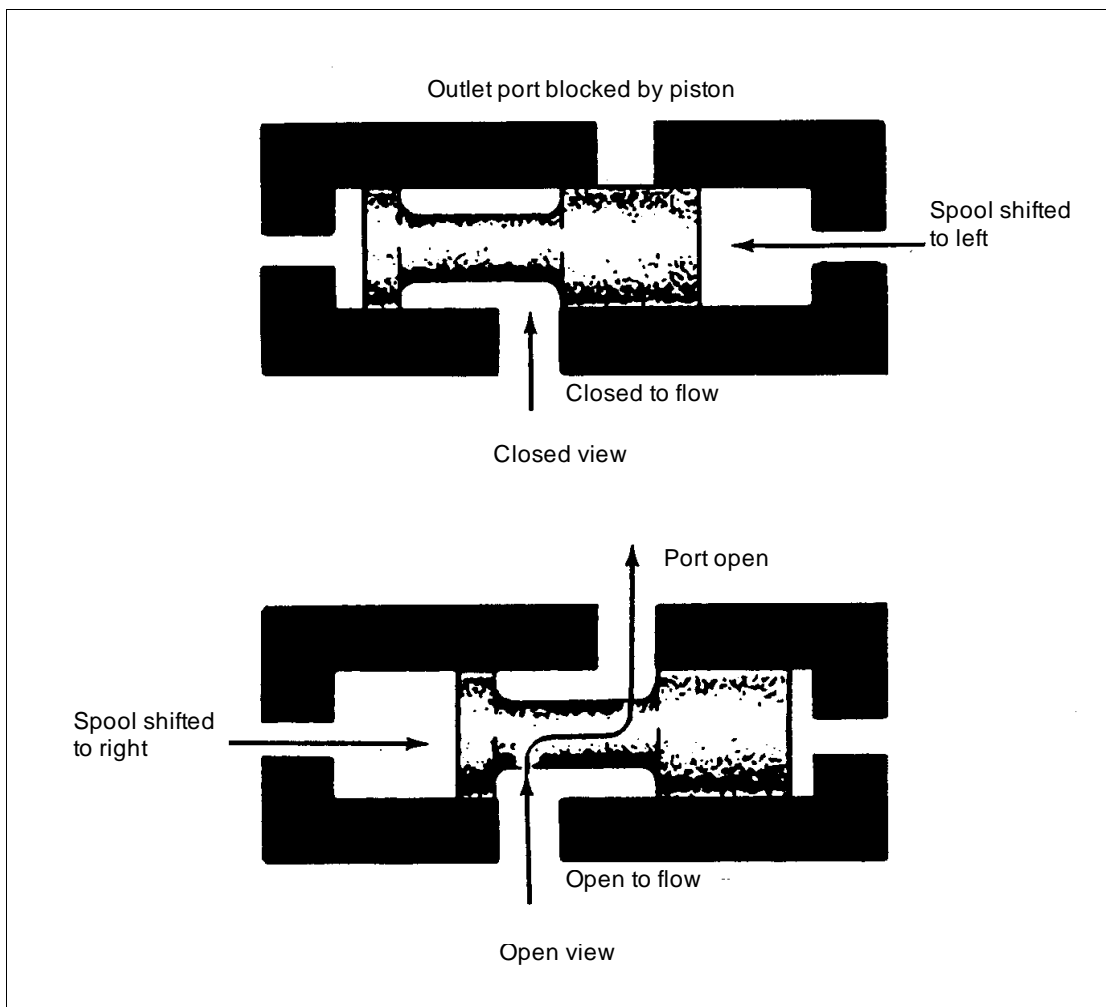

Figure 2-4. Sliding-spool valve
c. The sliding-spool valve is shown in Figure 2-4. During operation, the valve element slides back and forth to block or uncover ports in the housing.